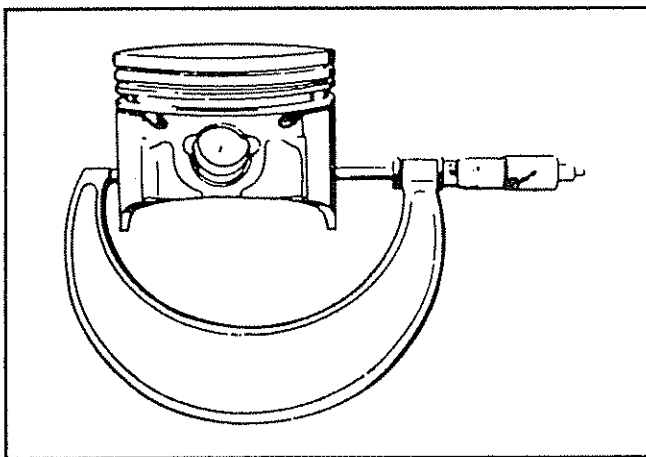

Fig. 8-113 Measuring Piston Diameter
- b. Measure piston diameter at skirt across center line of piston pin (Figure 8-113).